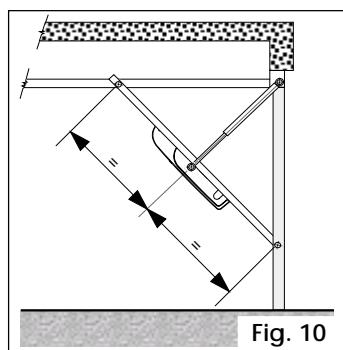

Fig. 10
- **garage door with horizontal guides (Fig. 10)**